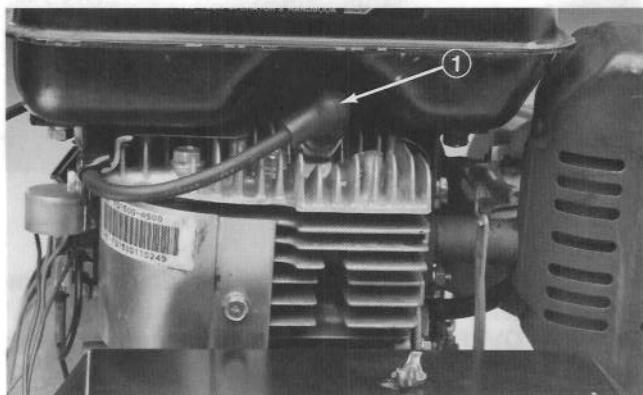

Figure 32
2. Clean around spark plug and remove plug from cylinder head (Fig. 32)